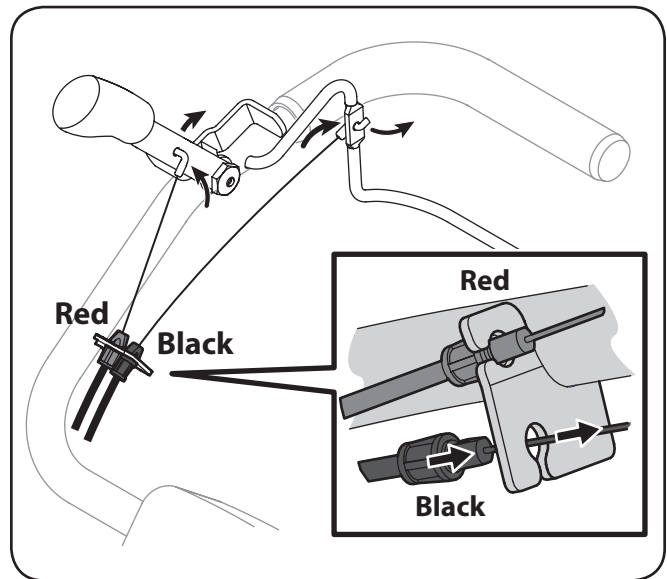

Figure 3-5
7. The forward (black) cable is routed up the back of the right handle and connected to the clutch bail as shown in Figure 3-5.
8. When the forward (black) cable is correctly connected to the clutch bail, mount the cable in the cable mount bracket. See Figure 3-5.
9. The reverse (red) cable is routed up the right side of the right handle and connected to the reverse handle as shown in Figure 3-5.
10. When the reverse (red) cable is correctly connected to the reverse handle, mount the cable into the cable mount bracket. See Figure 3-5.